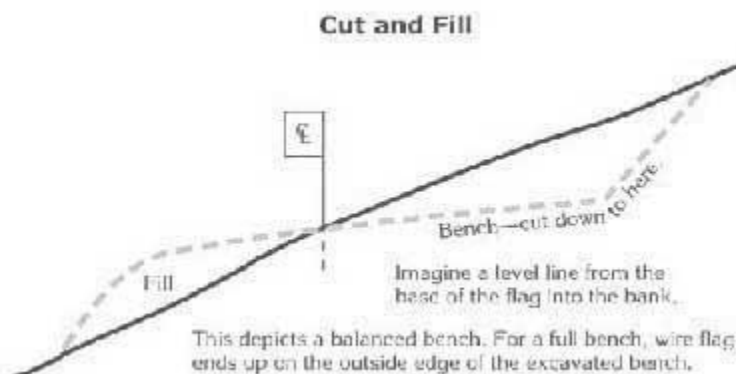

Figure 11--Basic sidehill trail building.
- For a balanced bench trail, the point where the wire flag enters the ground is the finished grade. Scratch a line between flags to keep yourself on course. Facing the uphill slope, begin digging about 150 mm (6 in) from the flag cutting back into the slope. Imagine a level line drawn from the base of the flag into the bank. Dig into the bank down to this line, but not below (Figure 11). Pull the excavated material to the outer edge. Tamp this fill material as you go. On a full-bench trail, the wire flag essentially ends up at the outside edge of the trail. For less than a full-bench trail, the flag ends up somewhere between the centerline and outside edge. Keep this in mind when you place the wire flags.